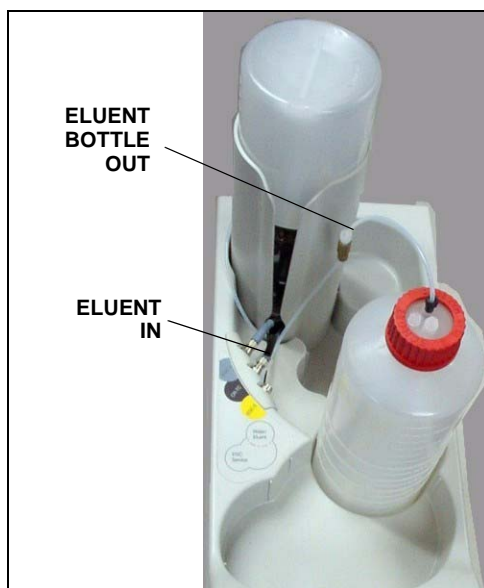

Figure 3-10. Reservoir Connections
If it is not already connected, connect the **ELUENT BOTTLE OUT** line from the reservoir cap to the **ELUENT IN** line, which extends from the plumbing and cable chase on the top of the ICS-2000 (see Figure 3-10).
1. Make sure the eluent reservoir is filled and the tubing connecting the reservoir to the ICS-2000 tubing is securely connected (see Figure 3-10).